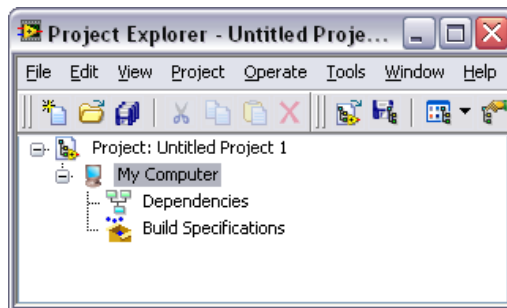

Figure 2. Targeting My Computer in the Project Explorer Window
2. Select **Empty Project** in the **Getting Started** window to open an empty LabVIEW project as shown in Figure 2. LabVIEW creates an empty project with a Windows target, shown in Figure 2 as **My Computer**.